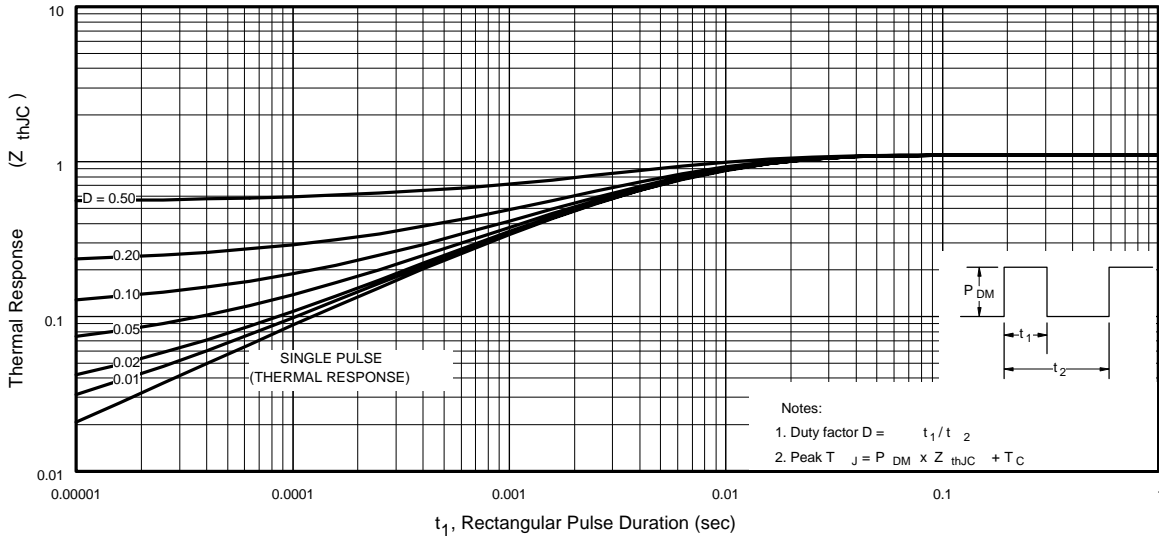

Fig 11. Maximum Effective Transient Thermal Impedance, Junction-to-Case
- ① Repetitive rating; pulse width limited by max. junction temperature. (See fig. 11)
- ② Starting $T_J = 25^\circ\text{C}, L = 11\text{mH}$